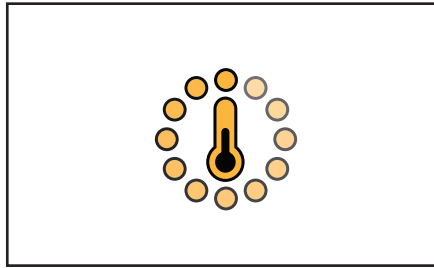

Fig. 4.12- Heating icon
3. The heating icon (busy thermometer) will be shown on the touch screen (fig. 4.12).